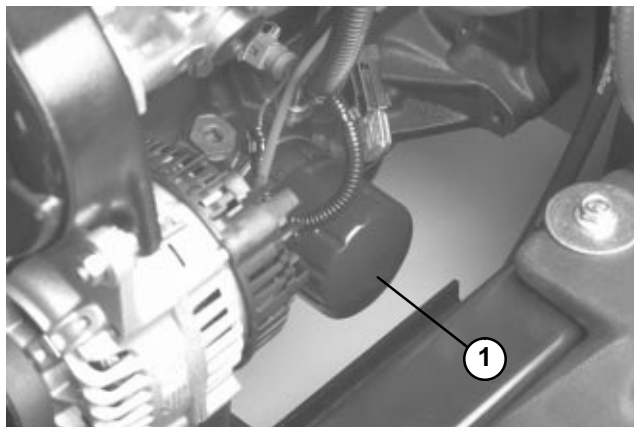

Figure 21
2. Remove oil filter (Fig. 21). Apply a light coat of clean oil to the new filter seal before screwing it on. DO NOT OVER-TIGHTEN.